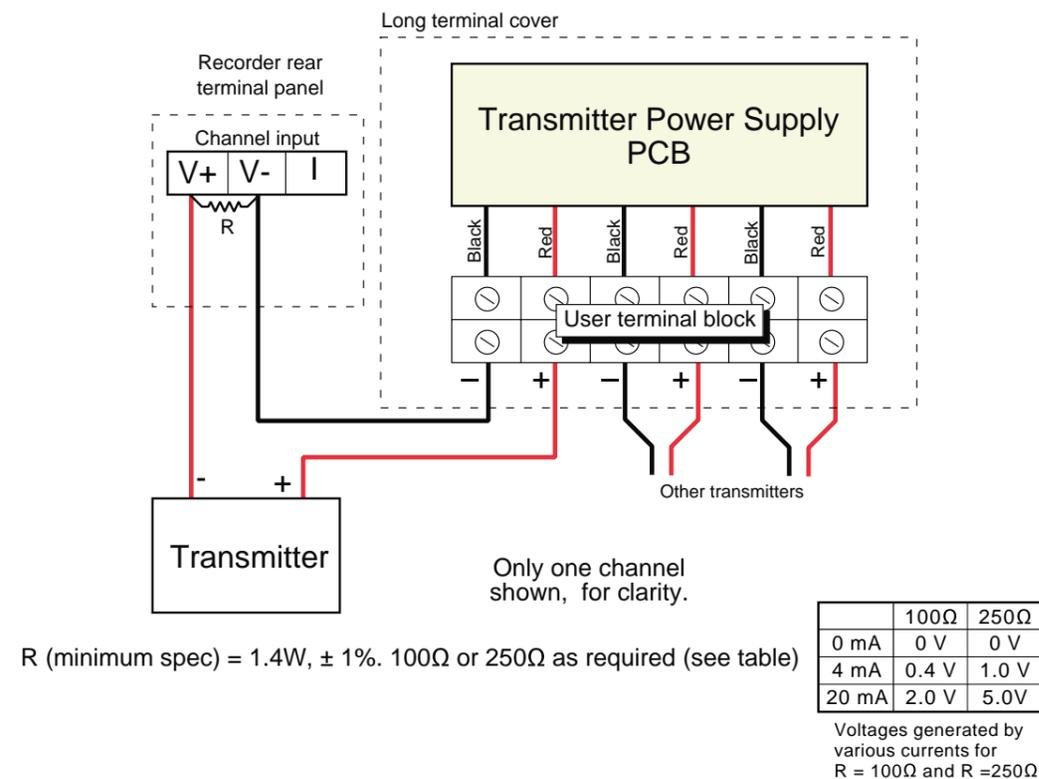
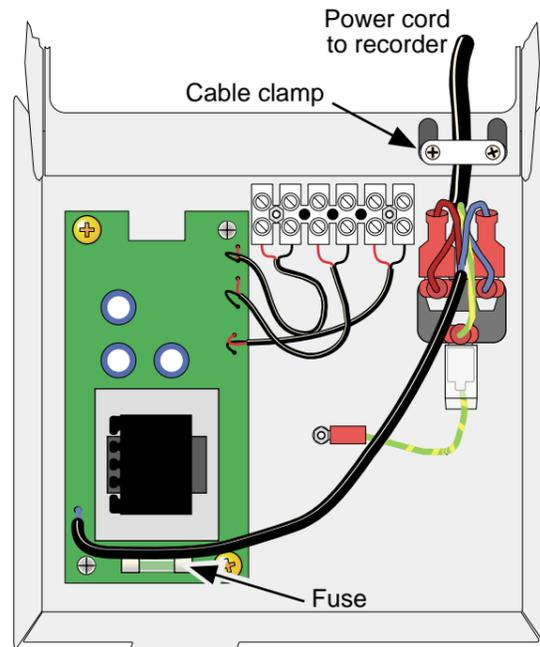
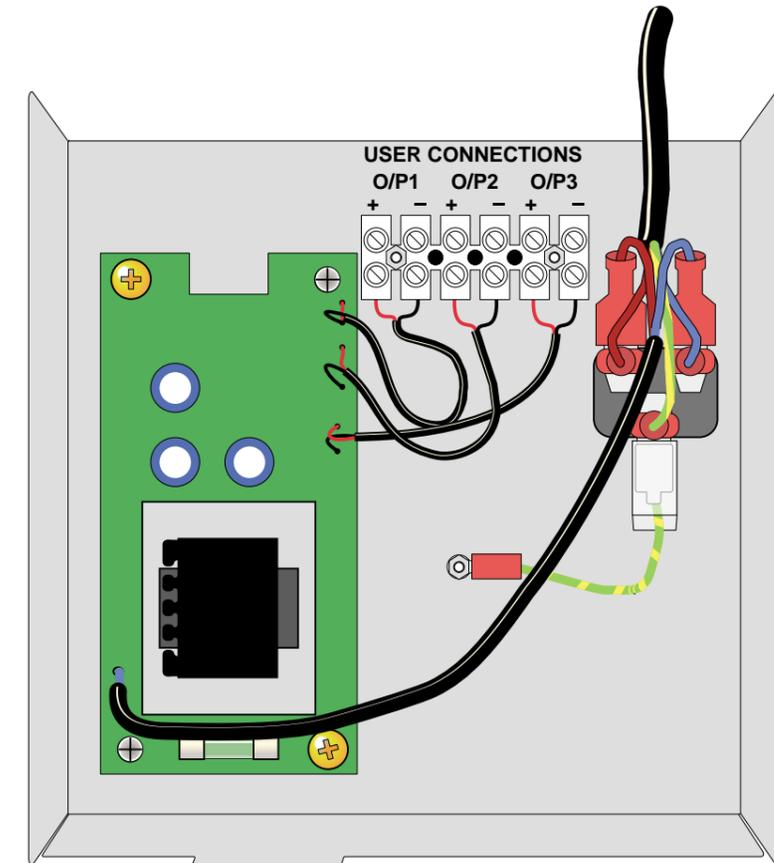

Figure 5 Application wiring
Figure 2 Inside the terminal cover
Figure 4 Terminal block wiring
- 3 Open the cover to reveal the circuit board, user connections etc. (figure 2)
- 4 The fuse is located as shown in figure 2. User wiring to the terminal block (figures 4 and 5) can be carried out now, or the terminal cover can be removed for convenience, as described in steps 5 onwards below.
Figure 4 shows the terminal block pinout, and figure 5 shows typical applications wiring.